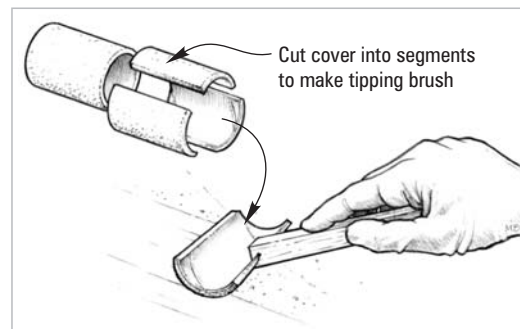

Figure 9-24 Tip off the fresh coat of epoxy with the grain, using a foam roller brush to remove bubbles and roller marks.
8. Drag a foam roller brush lightly over the fresh epoxy in long, even, overlapping strokes after each full batch is applied. Use enough pressure to smooth the stipple, but not enough to remove any of the coating (Figure 9-24). Alternate the direction in which each coat is tipped off, 1st coat vertical, 2nd coat horizontal, 3rd coat vertical, etc. A WEST SYSTEM 800 Roller Cover can be cut into segments to make a tipping bush.